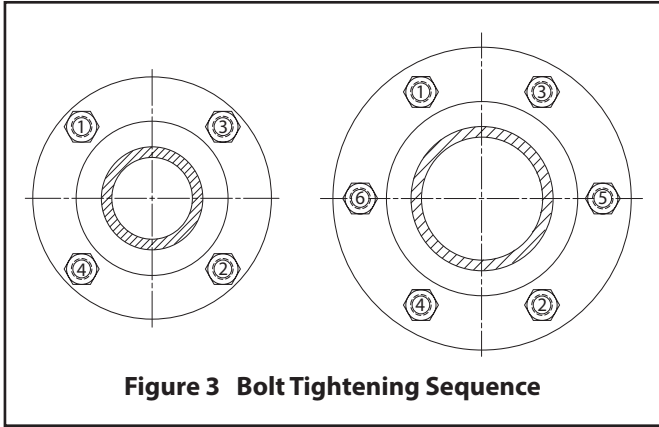
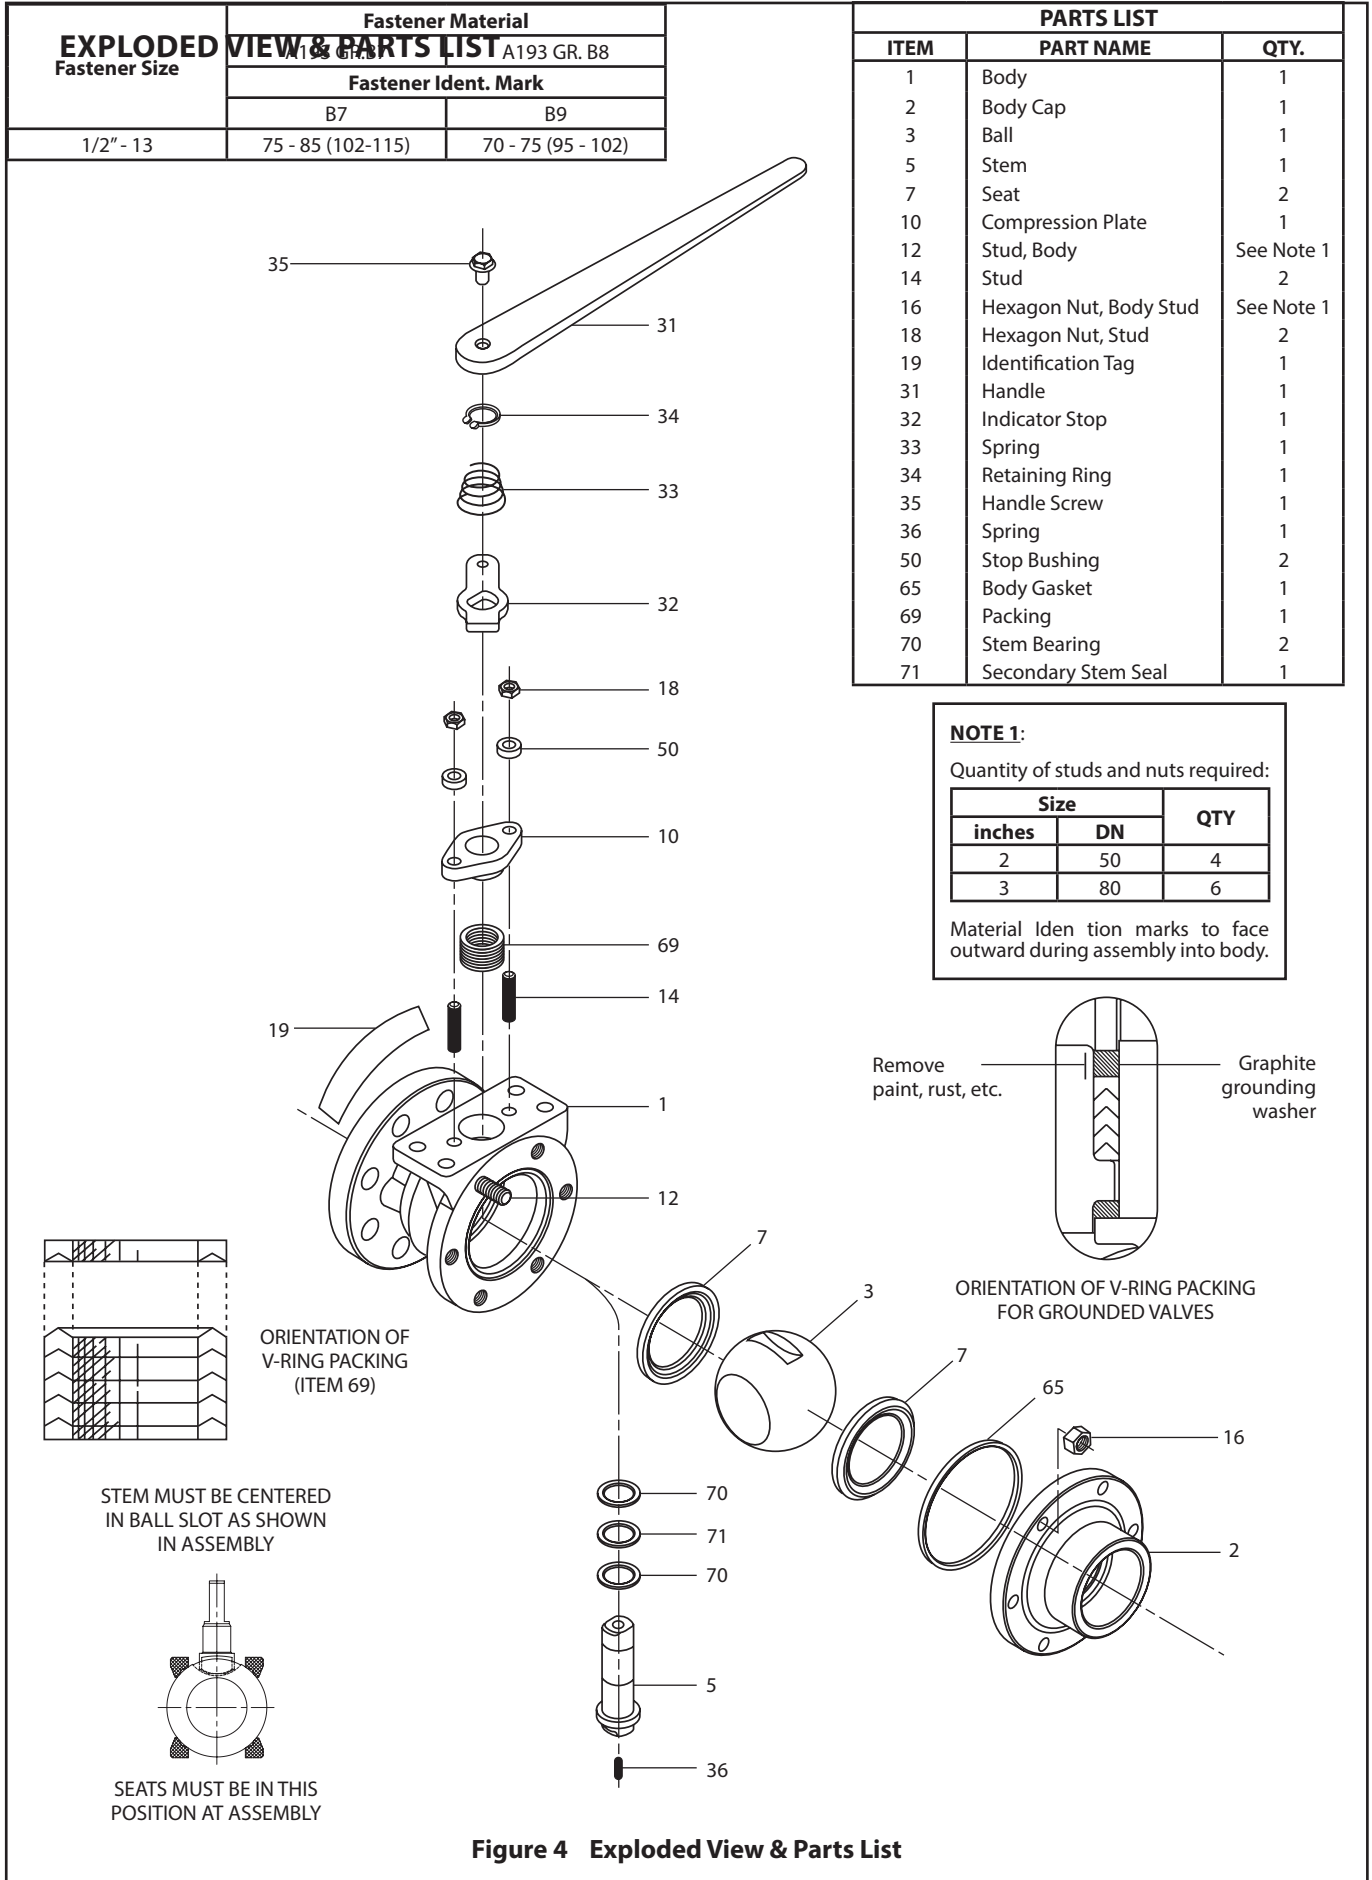

Figure 3 Bolt Tightening Sequence
Figure 4 Exploded View & Parts List
Although Metso's *Jamesbury* valves are designed to work under severe conditions, proper preventative maintenance can significantly help to prevent unplanned downtime and in real terms reduce the total cost of ownership. Routine maintenance consists of tightening the hex nuts (18) in **(Figure 4)** periodically to compensate for stem seal wear. Stem nut torque should be about 250 in.-lb. The inspection and maintenance frequency depends on the actual application and process condition.
6. From inside the body (1), insert the one thrust bearing (70), the secondary stem seal (71), and the second thrust bearings (70) into the stem bore (see **Figure 4**).
7. Insert the stem (5) through the body cap end of the body (1), being careful not to scratch the stem sealing surface; and press it gently up into the stem bore until resistance is felt from the thrust bearing.
8. Hold the stem in place from the bottom and insert the stem seals (69) (see **Figure 4** for proper v-ring orientation), over the stem (5). If the valve is to grounded, remove one middle V-ring and place graphite grounding washer (see **Table 2**) on top of stack (see **Figure 4**).
9. With a wire brush, clean bonnet studs (14) and bonnet stud nuts (18) of foreign material, such as paint, thread locker, grime and commodity. Inspect the threads for damage or defects with appropriate ring or plug gauge. Repair any out-of-tolerance threads, or replace in-kind. Check that nut can be run up and down entire usable portion of the threads. See **Figure 4**.
10. Place compression plate (10) over stem (5), bonnet studs (14). Place stop bushings (50) over each bonnet stud (see **Figure 4** for proper orientation).
11. Place a bonnet stud nut (18) on each bonnet stud (14) and tighten nuts alternately so that the compression plate (20) remains parallel with the body bonnet. Tighten the bonnet stud nuts "finger-tight", then tighten an additional ¼ turn.
13. Gently place the body gasket (65) into the machined recess of the body (1).
14. Place the second seat (7) on top of the ball (3) with the proper surface adjacent to the ball.
15. With a wire brush, clean body studs (12) and body stud nuts (16) of foreign material, such as paint, thread locker, grime and commodity. Inspect the threads for damage or defects with appropriate ring or plug gauge. Repair any out-of-tolerance threads, or replace in-kind. Check that nut can be run up and down entire usable portion of the threads. See **Figure 4**.
16. Place the body cap (2) over body studs (12) being careful to properly orient body cap and body as originally assembled by matching orientation marks made prior to disassembly. Take care not to damage body gasket (65) or seat (7) during this operation.
17. Lubricate the threads and face of nuts (16) with NeverSeez® or equivalent. Install nuts (16) on body studs (12) so that material identification marks will be visible after tightening. Tighten sequentially as shown in the diagram (**Figure 3**), to the recommended torques as shown in the torque chart (**Table 3**).
- c. From **Figure 4**, the ballooned part number, part name and quantity required.